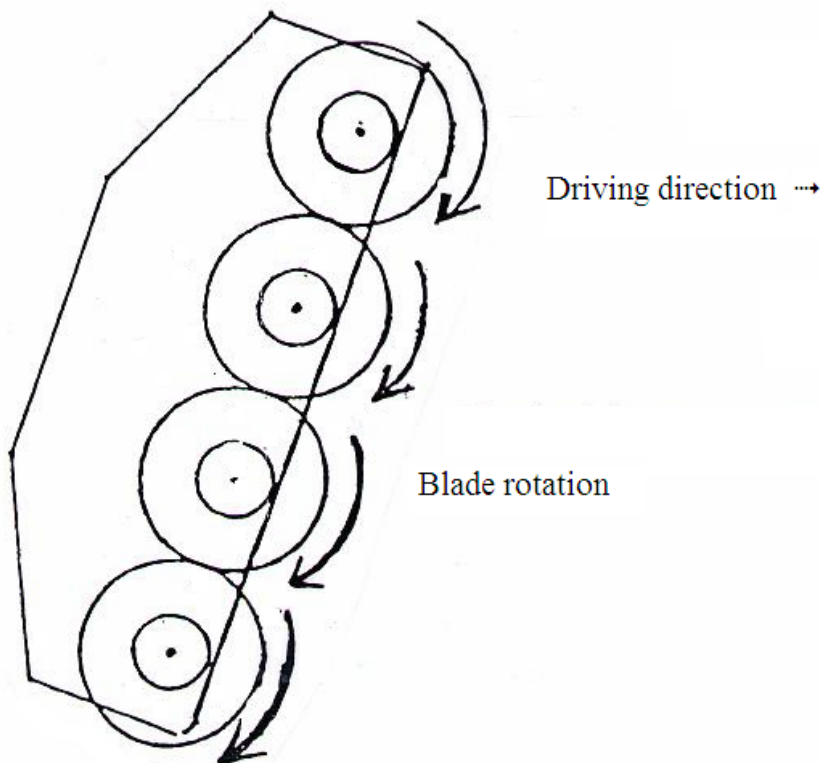

Fig. 1 Blade rotation
- The blades **MUST** be mounted in a downward cut rotation. Mount the blades so they are cutting down (Must run same way as the tractor) (Fig. 1).